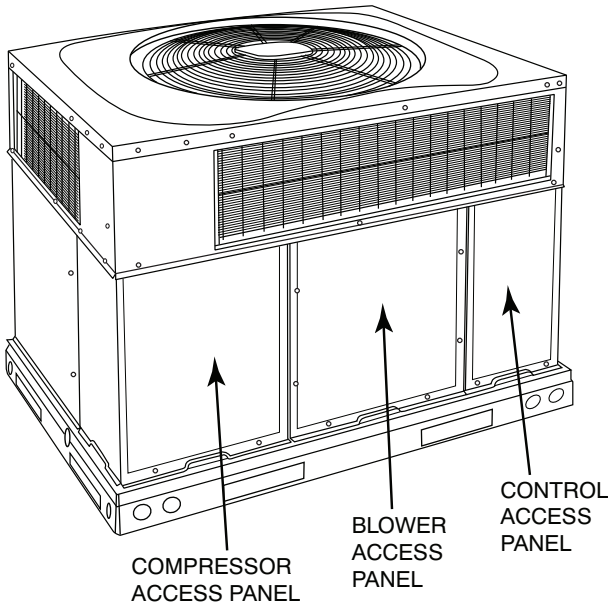

Fig. 19 - Unit Access Panels
- a. Remove blower access panel (see Fig. 19).
- g. Reinstall blower access panel (see Fig. 19).
1. Remove control access panel (See Fig. 19).
Remove blower access panel (see Fig. 19). Limit switch(es) are located on the fan partition.
3. Remove control access panel (See Fig. 19).
Remove access panels (see Fig. 19) to locate all the electrical controls and wiring. Check all electrical connections for tightness. Tighten all screw connections. If any smoky or burned connections are noticed, disassemble the connection, clean all the parts, re-strip the wire end and reassemble the connection properly and securely.